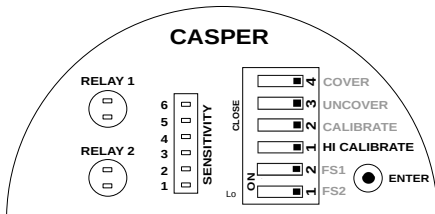

Figure 15: Saving HIGH Calibration
- Release the ENTER key and set the HI CALIBRATE switch back to OPEN position as shown in Figure 15.